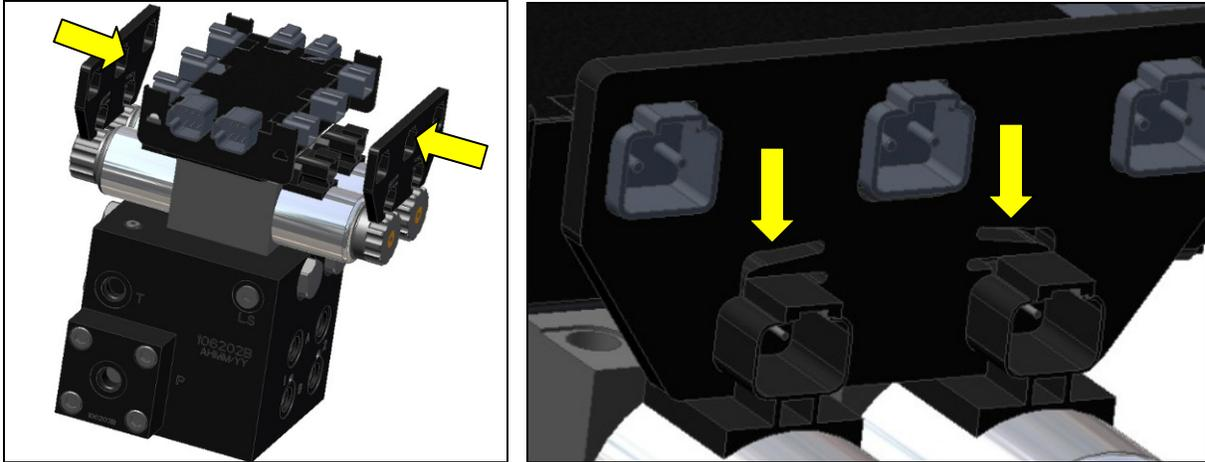

Figure 20: Valve Module Bracket Installation
3. Place the valve module between the valve coils. Slide a valve mounting bracket over the connectors of the valve module and the valve coil connectors. This may require flexing the plastic bracket slightly (Figure 20).